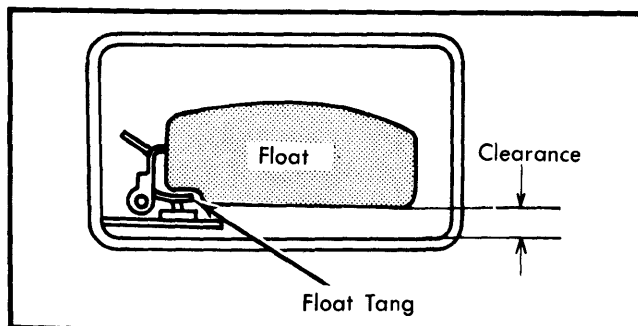

Fig. 2 Checking Float Level Adjustment
2) Invert carburetor on stand and allow float to lower by its own weight. Measure clearance as shown in Fig. 2. Clearance should be .335" (8.5 mm). To adjust clearance, bend float tang until proper clearance is obtained.